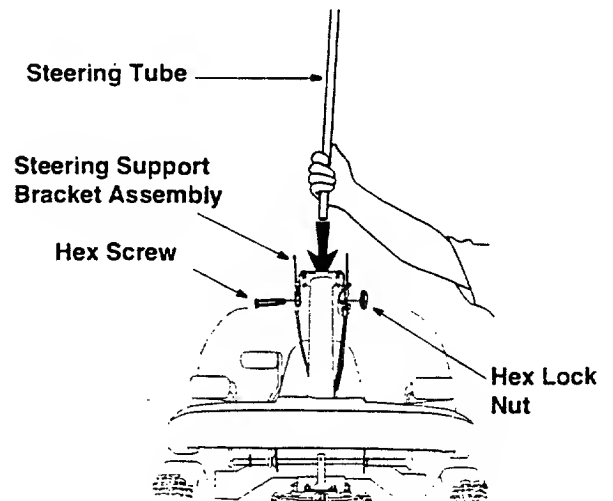

Figure 5
- Secure with hex screw and hex inserted locknut from the hardware pack. See Figure 5.